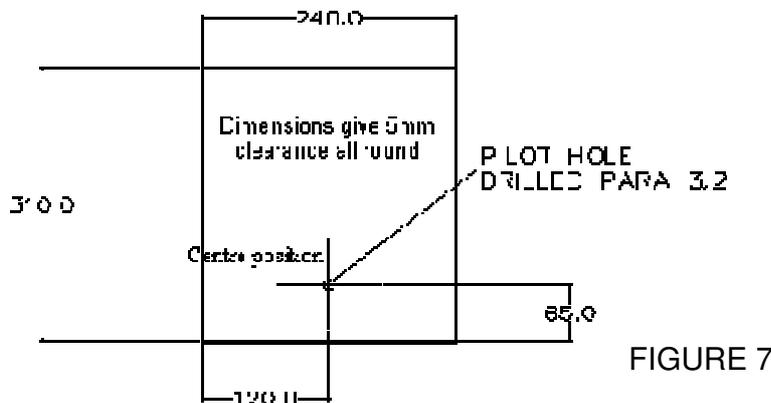

FIGURE 7
- 1 Cut a rectangular hole in the external leaf of the brick wall to the dimensions shown in Figure 7.